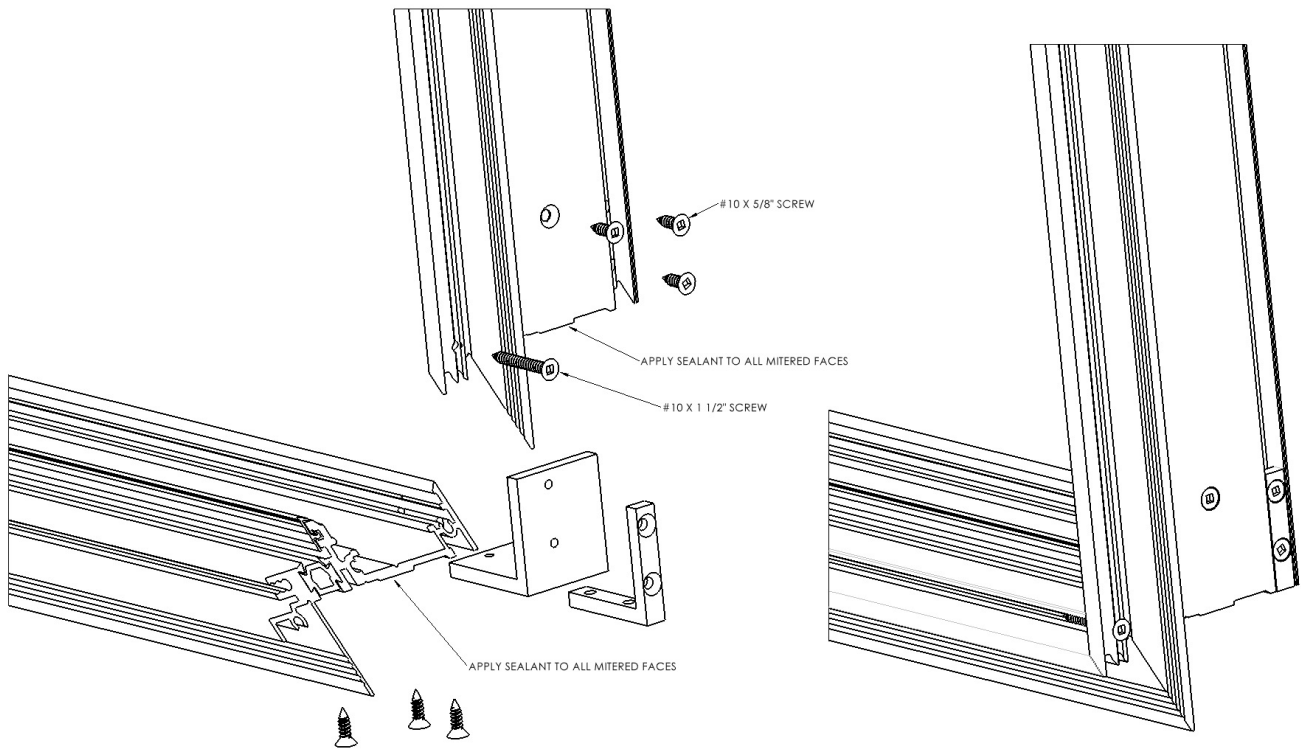

Figure 15***
- Assemble the corners of the perimeter frame using the two keys and #10 x 5/8" screws. Apply a generous coat of Dow 795 sealant or equivalent to each mitred face. For perimeter frames with a nail fin, an additional screw will be used on the outer corner. (See Figure 15)